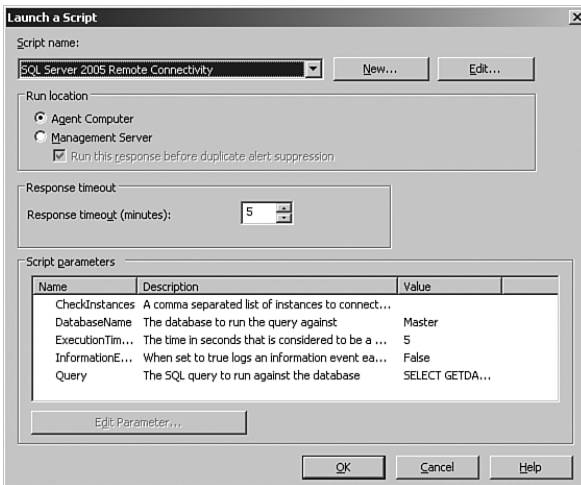

FIGURE 18.3 SQL Client Monitoring script parameter changes.
3. Change the values of the parameters used in this script in the Launch a Script screen shown in Figure 18.3.